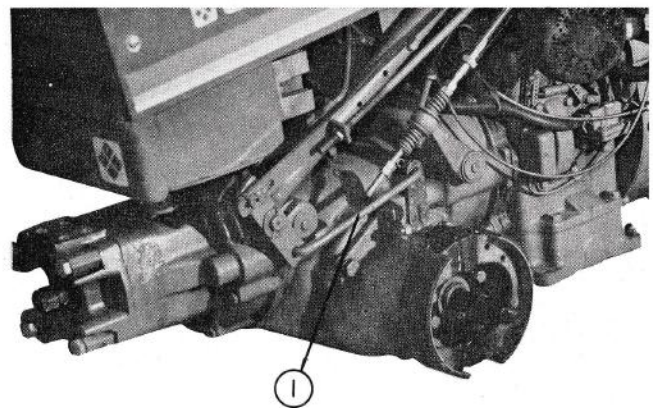

Fig. 16
13. Insert the other end of the brake link rod into the cam lever arm and secure with a washer and cotter pin. See fig. 16.